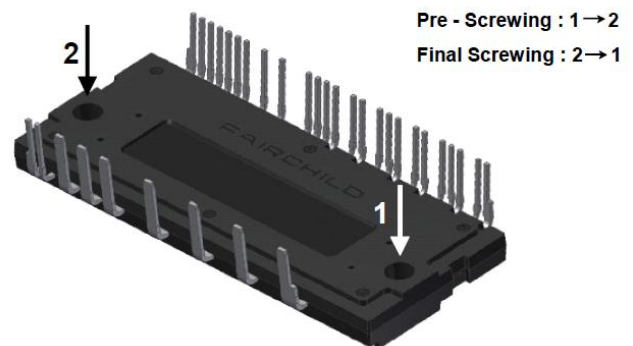

Figure 1. Mounting Screws Fastening Order:
When installing a module to a heat sink, excessive uneven fastening force might apply stress to the inside of chips, which leads to damage or degradation of the device. Figure 1 shows recommended fastening order.
2. Avoid tightening only one side at once. Figure 1 shows the recommended torque order for mounting screws. Uneven mounting can damage the ceramic substrate. The pre-screwing torque needs to be set as 20~30% of the maximum torque rating.